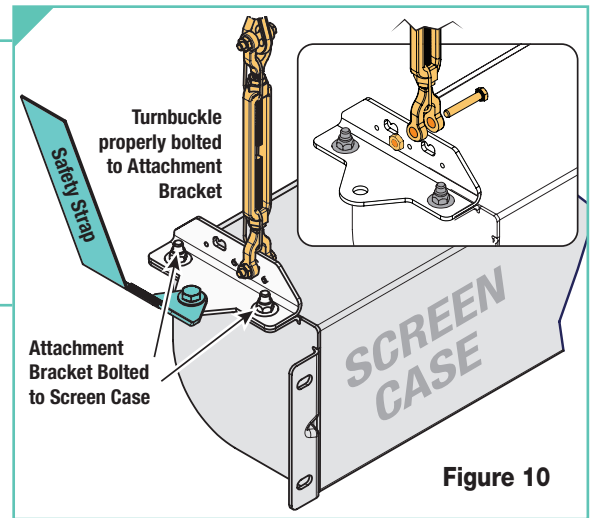

Figure 10
3. Attach the top Jaw of the Turnbuckle to the Cable assemblies of the Acrobat (See Fig. 10 & 11).
4. Attach the two (2) locking plates to the attachment brackets (see fig. 10 & 11).